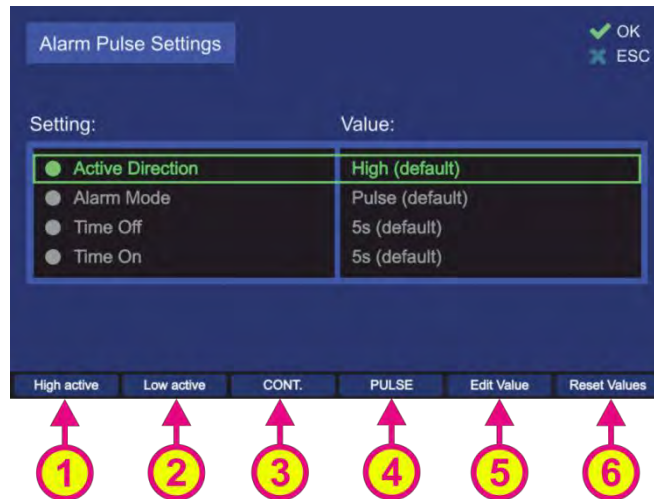
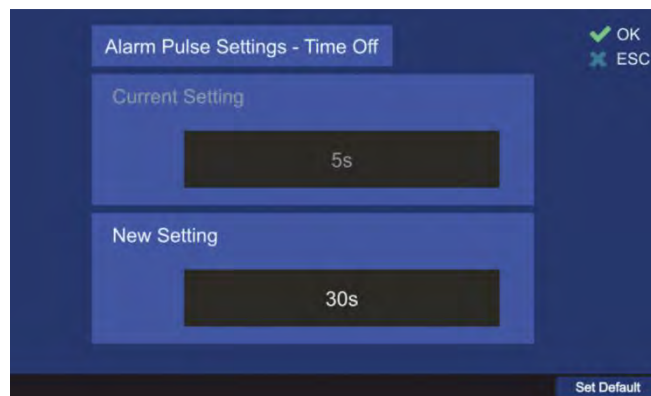

Figure 89. Alarm pulse settings
Figure 92. Time off Dialog
To change the single settings only the hotkeys for modifying the related values are used (s. Figure 89).
Active direction setting defines which direction (low or high) will lead to an alarm indication. This setting is changeable using the hotkeys “High active” / “Low active” or “Edit Value” (s. Figure 89, numbers ①, ② and ⑤), whereat using the first two hotkeys will change the value without opening the separate dialog.
This setting is changeable using the hotkeys “CONT.” / “PULSE” or “Edit Value” (s. Figure 89, numbers ③, ④ and ⑤), whereat using the first two hotkeys will change the value without opening the separate dialog.
- To change the "Time Off"- time, press the hotkey "Edit Value" (s. Figure 89, **5**). The related dialog will open (s. Figure 92).